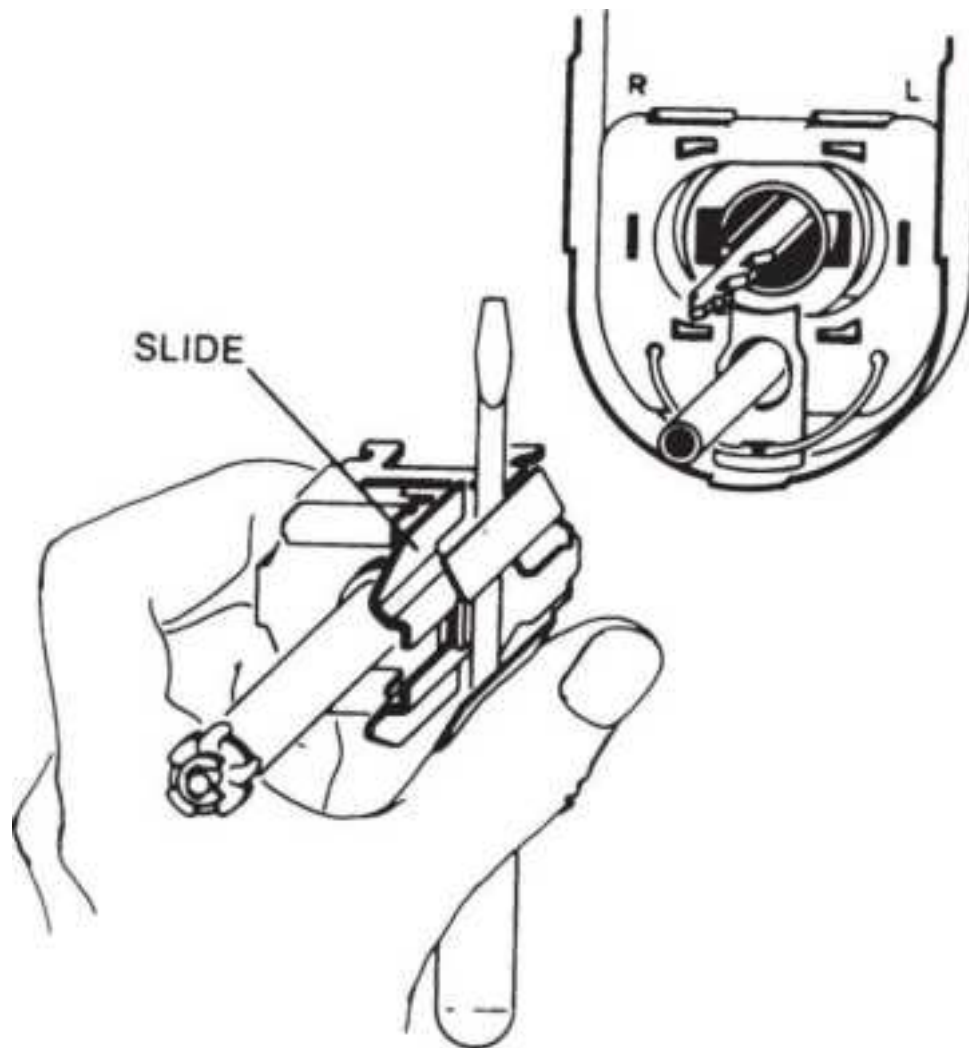

**Figure 13.97** Right-hand conversion, Step 5.
5. Compress the slide with a screwdriver and pull the assembly out (Fig. 13.97 ).